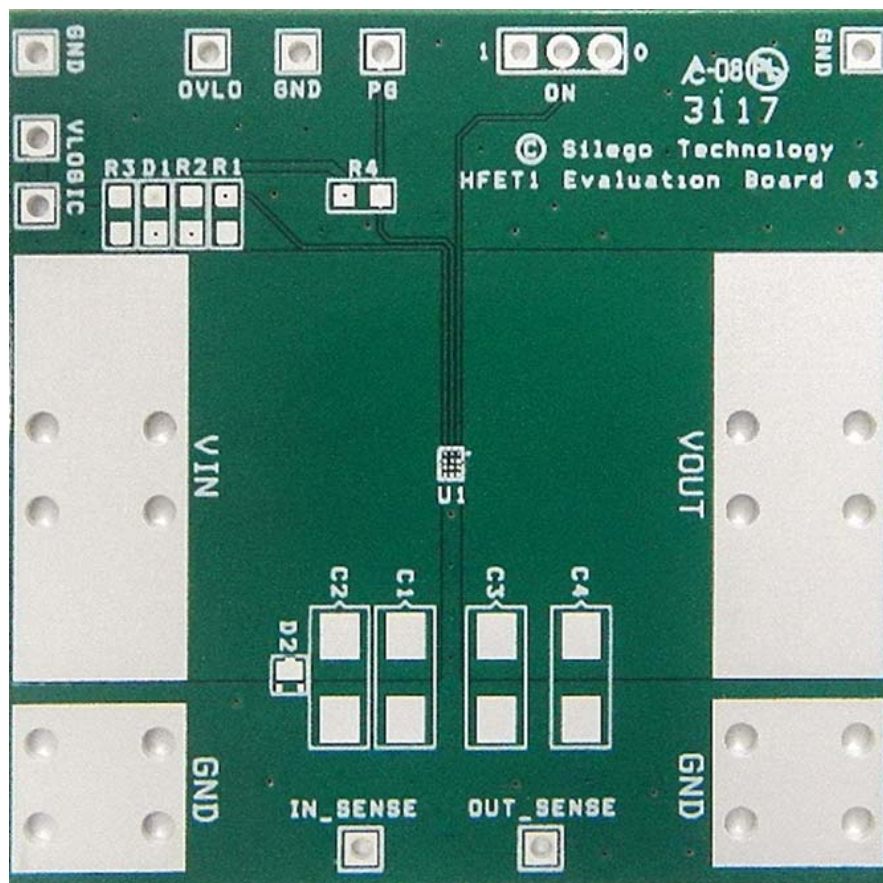

Figure 30. SLG59H1313C Evaluation Board
1. Since the IN and OUT pins dissipate most of the heat generated during high-load current operation, it is highly recommended to make power traces as short, direct, and wide as possible. A good practice is to make power traces with an absolute minimum widths of 15 mils (0.381 mm) per Ampere. A representative layout, shown in Figure 30, illustrates proper techniques for heat to transfer as efficiently as possible out of the device;
A High Voltage GreenFET Evaluation Board for SLG59H1313C is designed according to the statements above and is illustrated on Figure 30. Please note that evaluation board has IN_Sense and OUT_Sense pads. They cannot carry high currents and dedicated only for RDS(on) evaluation.